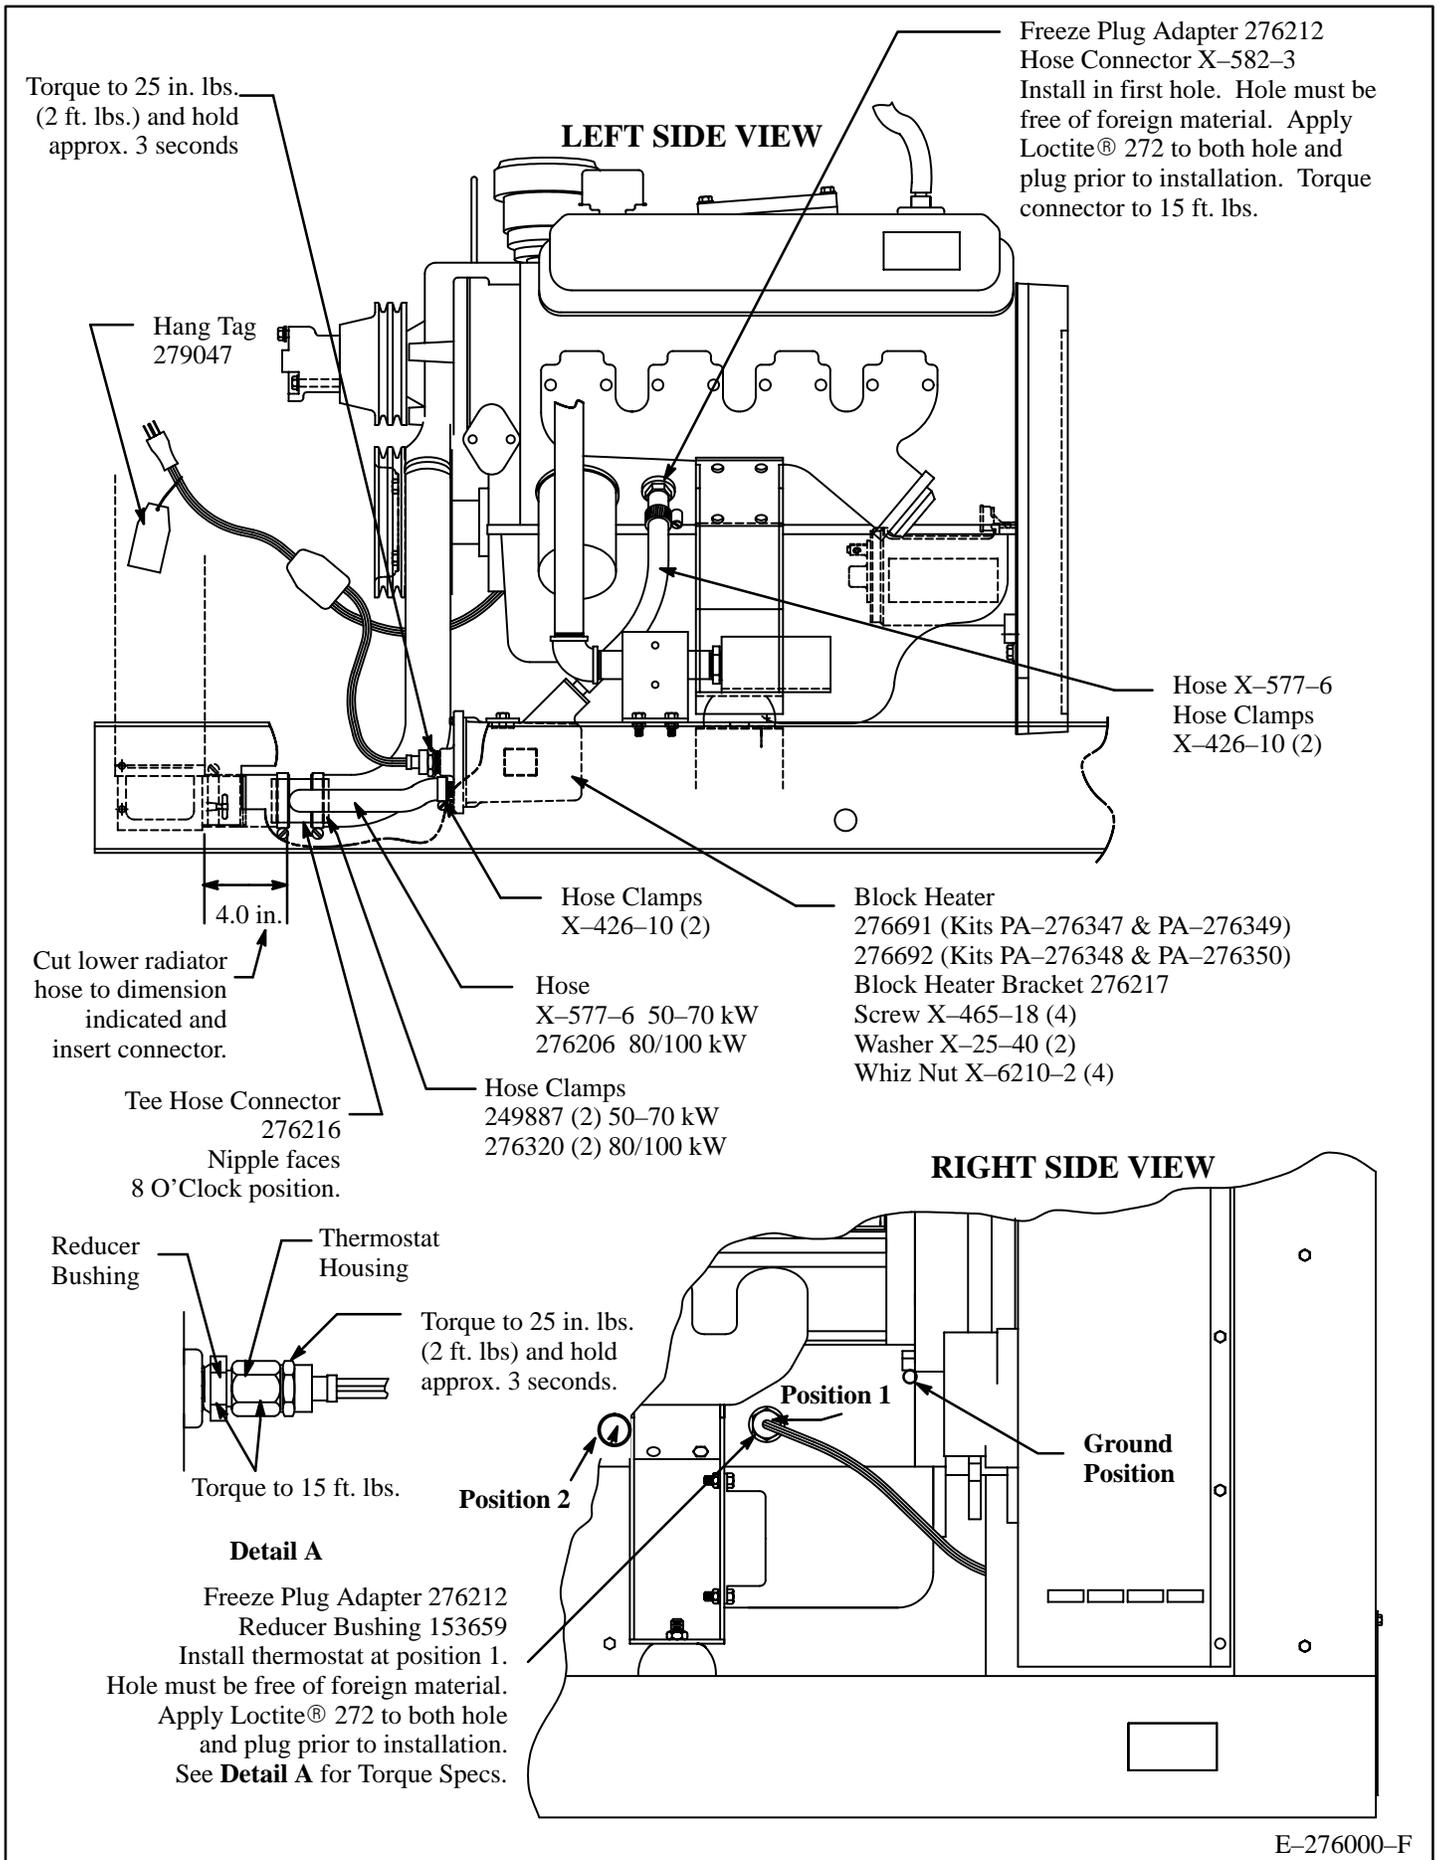

Figure 1. Block Heater Installation
3. Remove freeze plug from engine. See Figure 1 (Left Side View – when viewed from generator end) for location. To remove freeze plug, use a freeze plug puller, or puncture center with punch and pry out. Clean hole and remove burrs.
10. If installing block heater kit on a unit with the *Low Water Temperature (L.W.T.) Switch* feature located at position 1 (See Figure 1, Right Side View): Remove the L.W.T. switch and reducer bushing at position 1, leave the freeze plug adapter at position 1. Install freeze plug adapter 276212 and removed reducer bushing at position 2. Install reducer bushing 153659 (supplied in kit) at position 1. Install the thermostat into the reducer bushing at position 1. Relocate L.W.T. switch at position 2. Pull lead 35A back through harness and connect to L.W.T. switch. Remove lead N from harness disconnecting at ground position. Add new lead SWON-1622-2218 to L.W.T. switch and connect the other end to the ground position.
11. Remove freeze plug from engine. See Position 1, (Figure 1, Right Side View) for location. To remove freeze plug, use a freeze plug puller, or puncture center with punch and pry out. Clean hole and remove burrs.
12. With components clean and dry, apply Loctite® threadlocker 272 (red) or equivalent to freeze plug adapter 276212 and hole. Install freeze plug adapter using hardwood dowel and hammer at position 1 (see Figure 1, Back View). Drive freeze plug adapter into engine block so that it is flush with outside surface of block. Do NOT drive freeze plug adapter beyond that point or it may be forced into the water jacket. Install reducer bushing 153659, and thermostat. Torque reducer bushing and thermostat housing to 15 ft. lbs.
*Only required if installing kit on a unit with a Low Water Temperature Switch located at position 1, Fig. 1.